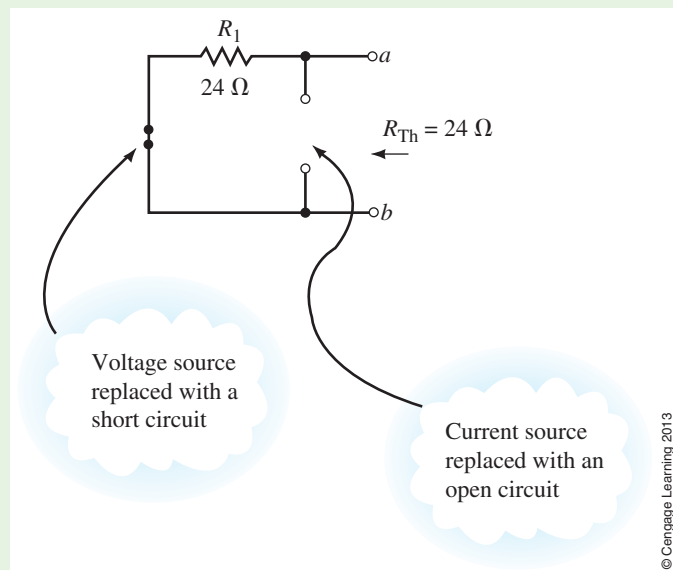

FIGURE 9-12
Step 3: Setting the sources to zero, we have the circuit shown in Figure 9-12.